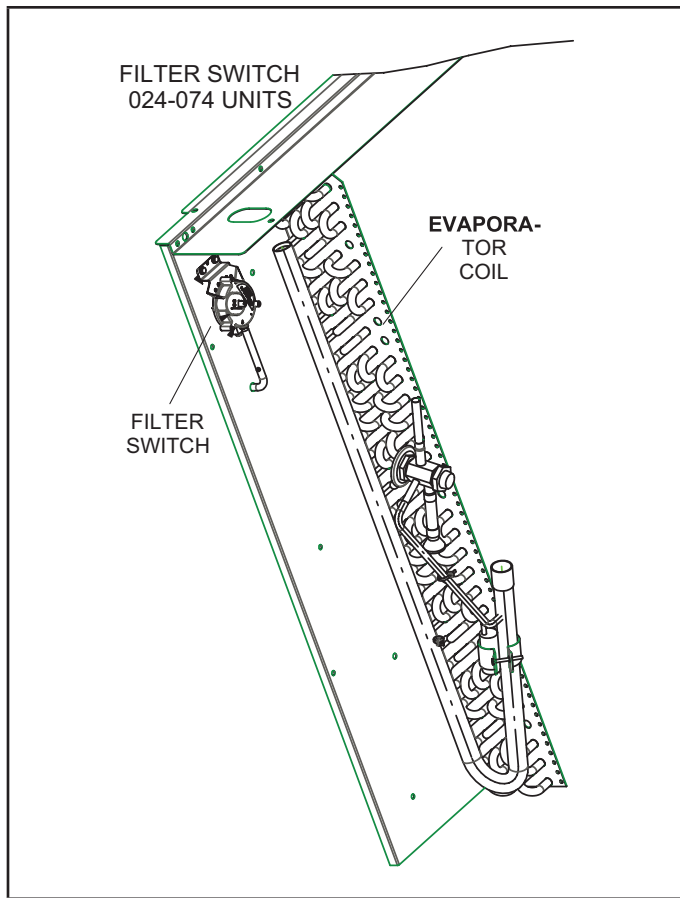
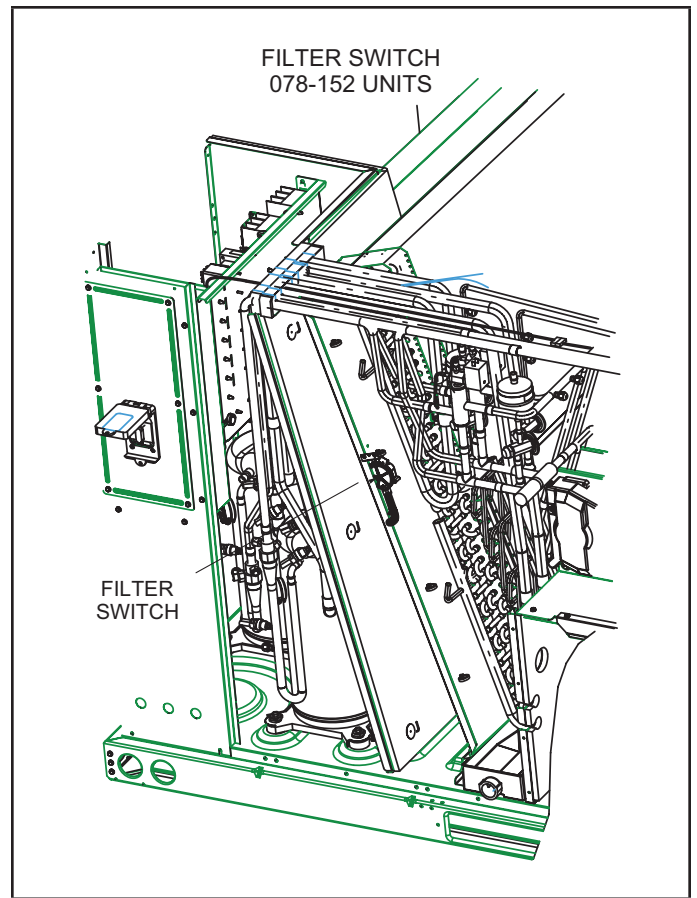

FIGURE 1
FIGURE 2
- 2 - Install filter switch in location shown in FIGURE 1 for 024-074 units, FIGURE 2 for 078-152 units, FIGURE 3 for 156-300S units and FIGURE 4 for 420-600 units.